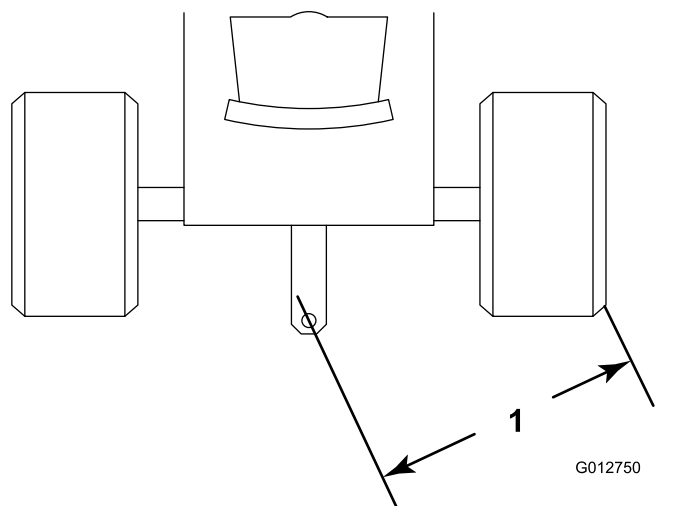

Figure 3
6. Adjust the drawbar (hitch) position of the tow vehicle so that the mounting hole is less than 125 cm (50 inches) from the outside of the rear tow vehicle tire (Figure 3). This will prevent interference with the front cutting unit lift arms. Refer to the *Operator's Manual* for your tow vehicle for the drawbar adjustment procedure.